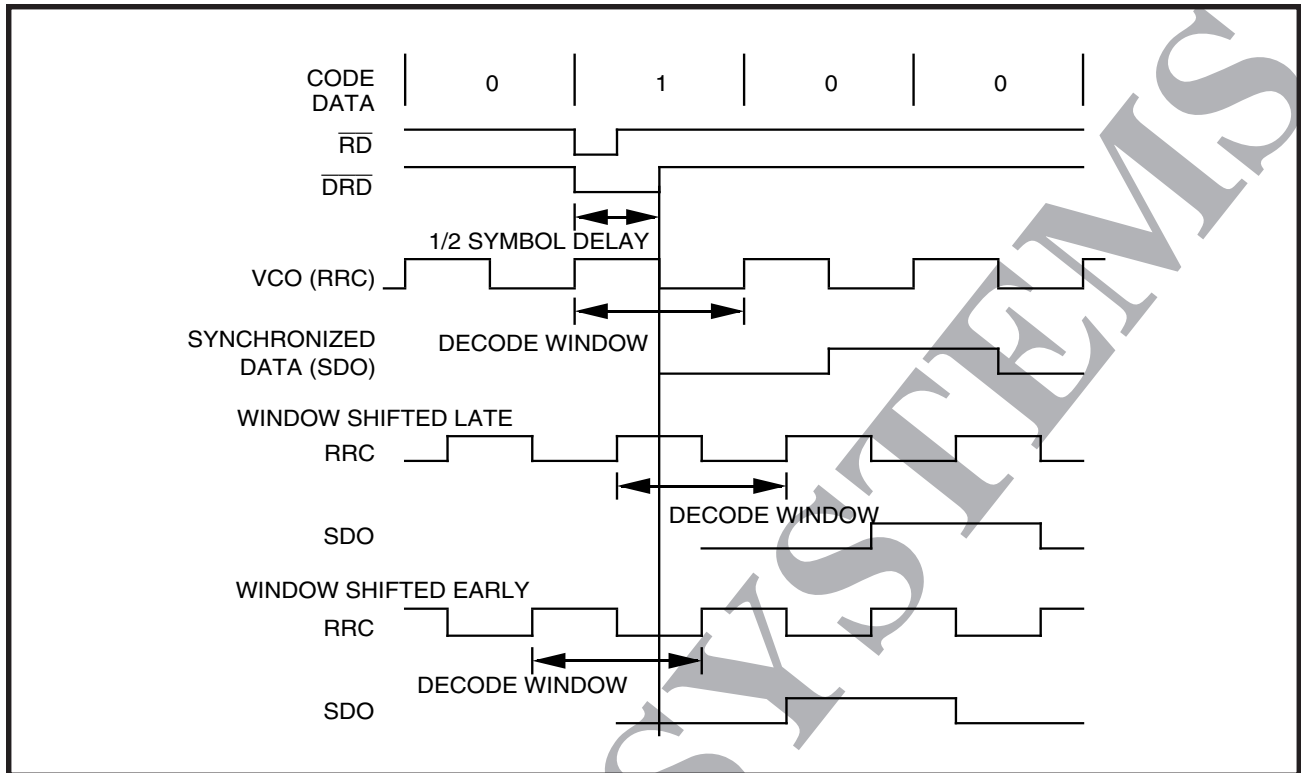

FIGURE 7: Read Data Synchronization Waveforms
The data synchronizer utilizes a fully integrated fast acquisition PLL to accurately develop the decode window. Read gate (RG) initiates the PLL locking sequence and selects the PLL reference input; a high level (read mode) selects the internal RD input and a low level selects the reference clock. In the read mode the falling edge of \overline{DRD} enables the phase detector while the rising edge is phase compared to the rising edge of the VCO reference (VCOR). \overline{DRD} is a 1/2 symbol wide (A VCO period, TVCO) pulse whose leading edge is defined by the falling edge of RD. A decode window is developed from the VCOR clock. Read data synchronization waveforms are shown in Figure 7. Bit D5 of register R15 (HDCR) controls the input to the data synchronizer. If bit D5 is HIGH then RD is the input to the synchronizer instead of \overline{DRD} . This mode can have advantages when the data contains consecutive 1's. If this is the case and two of these pulses are shifted towards one another, the \overline{DRD} one shot may mask the second pulse. For normal operation bit D5 of register R15 should be set LOW.
Window shift early and window shift late waveforms are shown in Figure 7. The window shift magnitude is set as a percentage of the full decode window, in 2.4% steps. This results in a window shift capability of $\pm 36\%$. The tolerance of the window shift magnitude is $\pm 20\%$. Window shift should be set during idle mode.